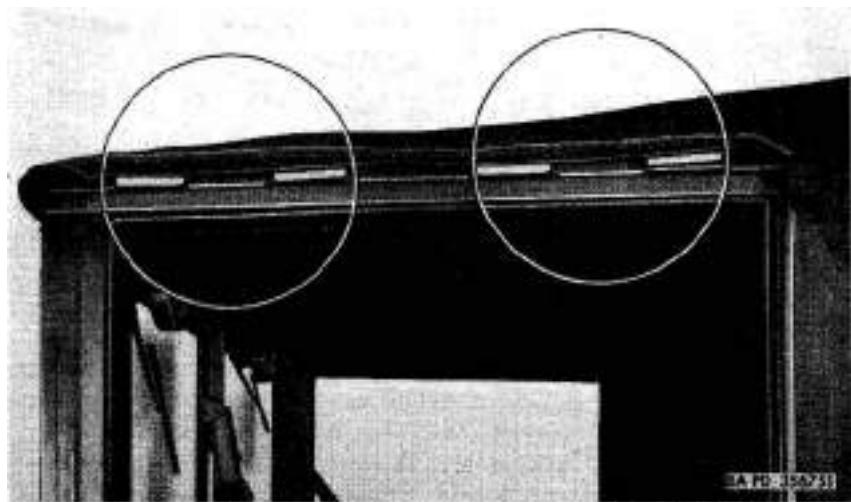

Figure 18. Top cover to top **side rail** disconnect points.
- (1) Disconnect bottom rear of cab top cover from cab by releasing hold-down rope from rear-panel hooks.
- (2) Pull top cover from right and left top side rails (fig. 18) as metal retainers in cover must be disengaged from side rails.